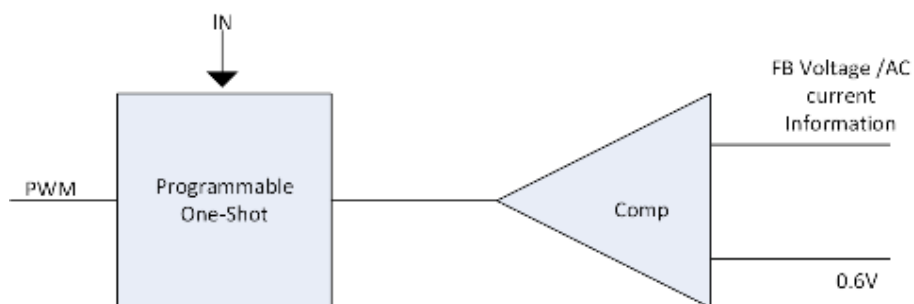

Figure 2. Simplified Control Schematic of EP6070
The simplified control schematic is shown in Figure 2. The high-side switch on-time is determined solely by a one-shot whose pulse width can be programmed by one external resistor and is inversely proportional to input voltage (IN). The one-shot is triggered when the internal 0.6V is higher than the combined information of FB voltage and the AC current information of inductor, which is processed and obtained through the sensed lower-side MOSFET current once it turns-on. The added AC current information can help the stability of constant-on time control even with pure ceramic output capacitors, which have very low ESR. The AC current information has no DC offset, which does not cause offset with output load change, which is fundamentally different from other V^2 constant-on time control schemes.